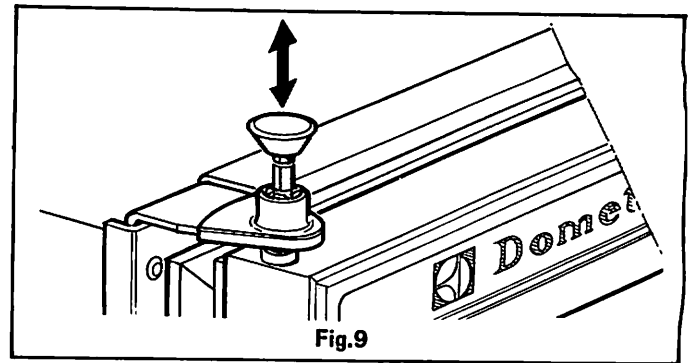

Fig.9
- If the refrigerator has been out of use for a period, make sure all air vents are free from obstructions before starting up. Also, check connections for gas leaks, using soapy water, — see item 9.
- Engage the travel catch at the top front corner of the door before moving off – see fig. 9.